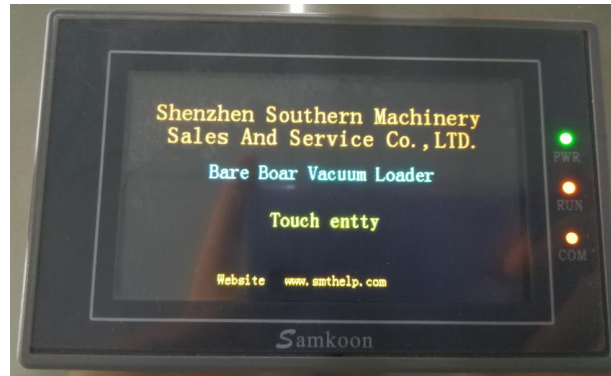
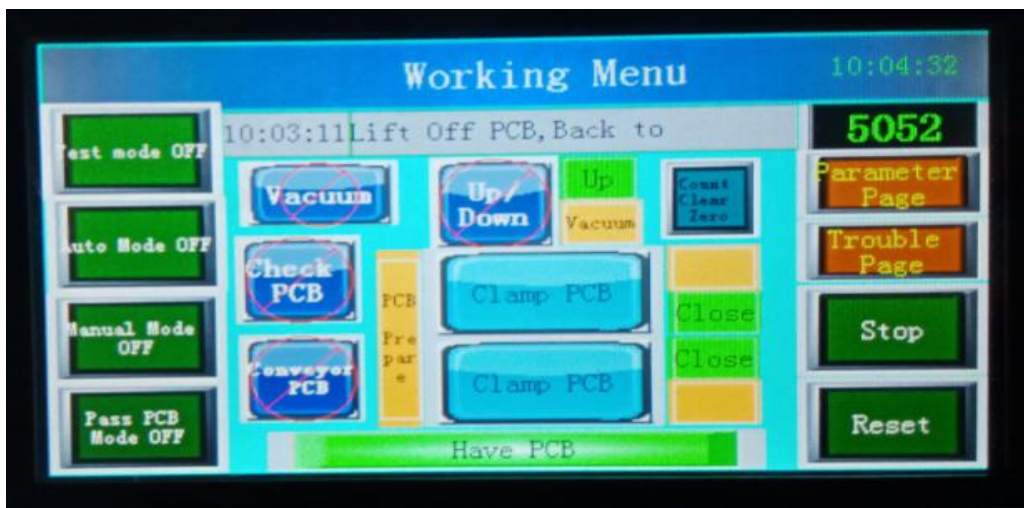
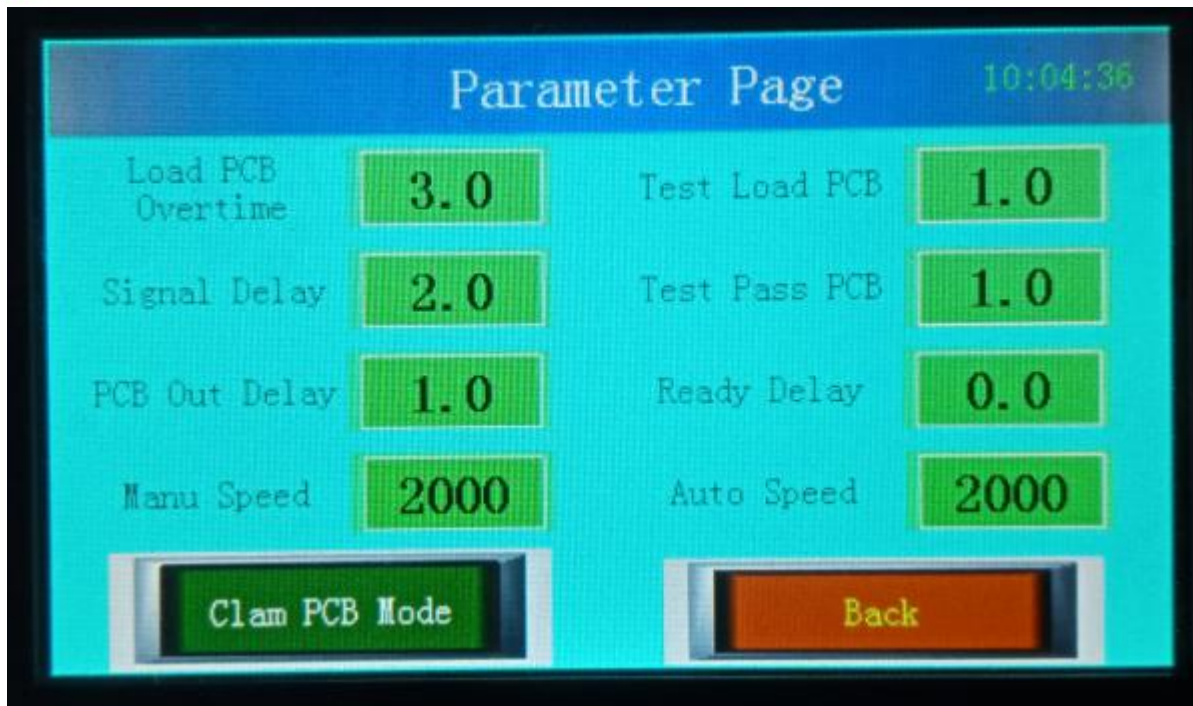

Figure 3.1
Figure 3.2
Figure 3.3
2. Switch is normal opening , and the touch screen appears as the Figure 3.1 interface
3. Click Figure 3.1 [Touch entry], and appear on the interface, such as Figure 3.2.
(1) click the [Parameter page] as shown in Figure 3.2, as shown in Figure 3.3,according to actual needs, set up relevant parameters.